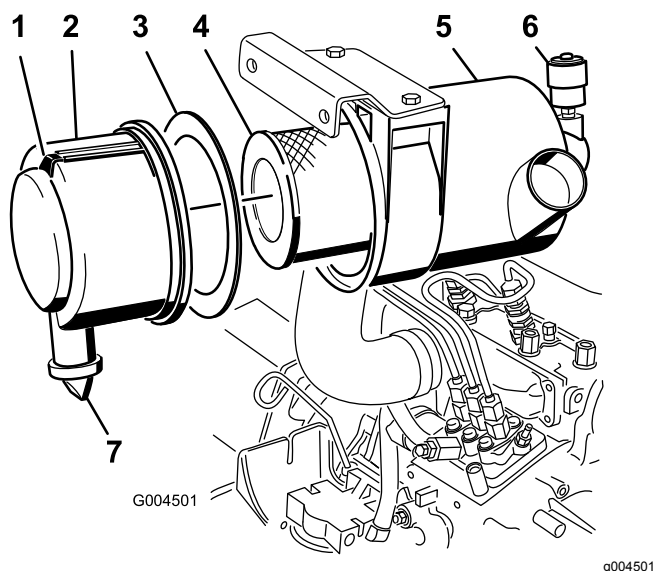

Figure 64
3. Service the air-cleaner filter when the air-cleaner indicator (Figure 64) shows red or every 400 hours (more frequently in extremely dusty or dirty conditions).
1. Pull the latch outward and rotate the air-cleaner cover counter-clockwise (Figure 64).
2. Remove the cover from the air-cleaner body (Figure 64).
4. Remove and replace the primary filter (Figure 64).
6. Ensure that the foam gasket is in place in the cover and that it is not torn or damaged (Figure 64).
- A. Remove the rubber outlet valve from the cover (Figure 64).
10. Reset the indicator (Figure 64) if it is showing red.